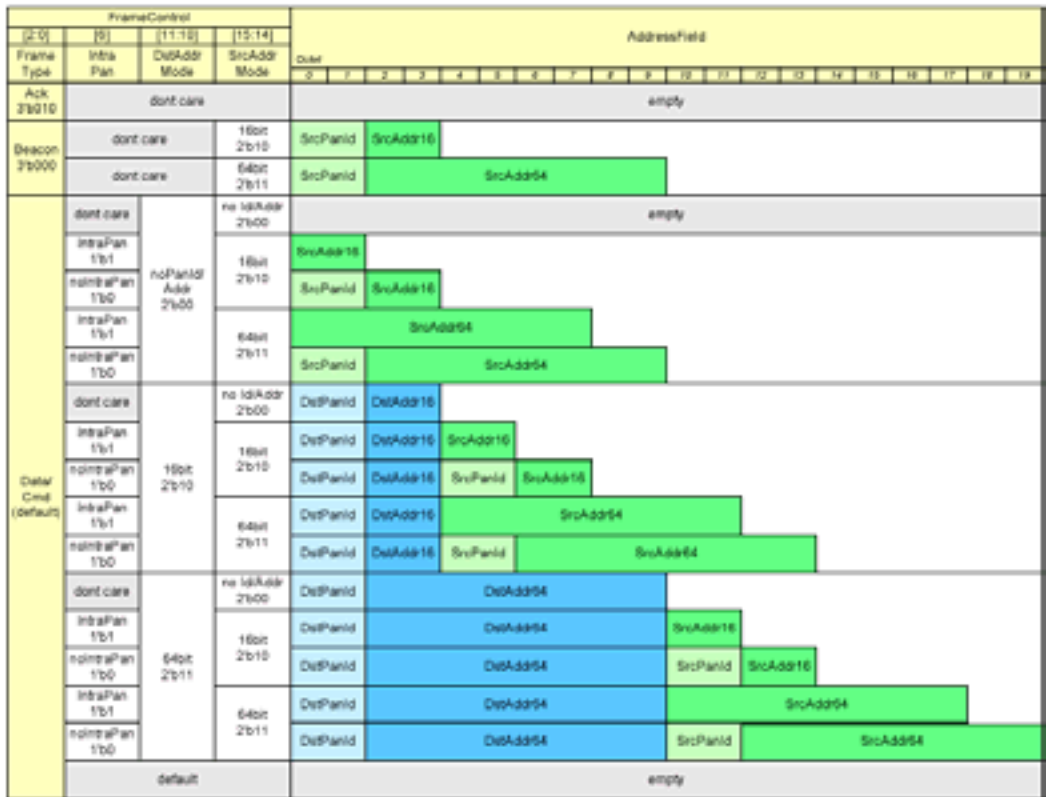

Figure 5.5 - 802.15.4 MAC Addressing Formats
- ❑ Upon inspection of Figure 5.5, note that an ACK frame contains no addressing, a beacon frame may contain 4 to 10 bytes of addressing, and a data/cmd frame may contain 4-20 bytes of addressing.
- ❑ Looking at Figure 5.5, this addressing mode can be achieved with IntraPan=1, Destination Addressing Mode=0b10 and Source Addressing Mode=0b10. The security enabled bit of the frame control should be left clear as it will not be used. A frame will not be pending, so the frame pending bit of the frame control should be left clear. The acknowledge requested bit will be set to signify to the receiving node that we want an acknowledgement.